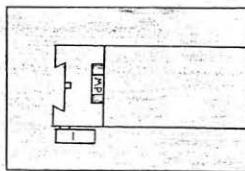

Fig. 2
4. Attach the observation tube. (Fig. 2)